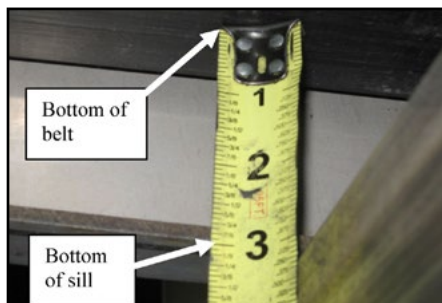

Figure 1
- B. Make sure the conveyor is shut off. Measure vertical distance from bottom of sill to conveyor in front of 2nd stake from front. Measurement should be 3" (7.6cm) on both sides of conveyor as shown in Figure 1 & 2. Use front adjusting bolts to tension both sides of conveyor as necessary.